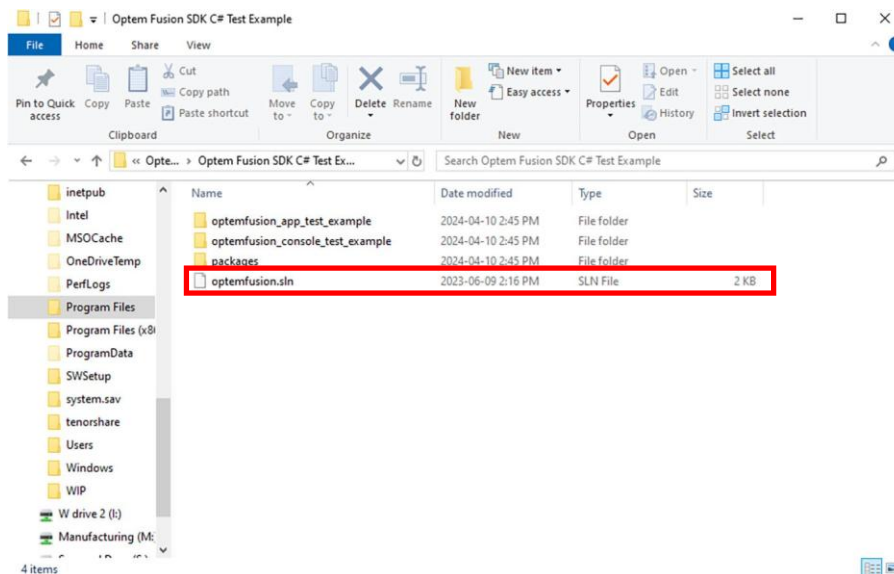

Figure 50 C# Test Example Folder Contents
3. Double click **optemfusion.sln** (outlined in red in Figure 50), to open the solution file.